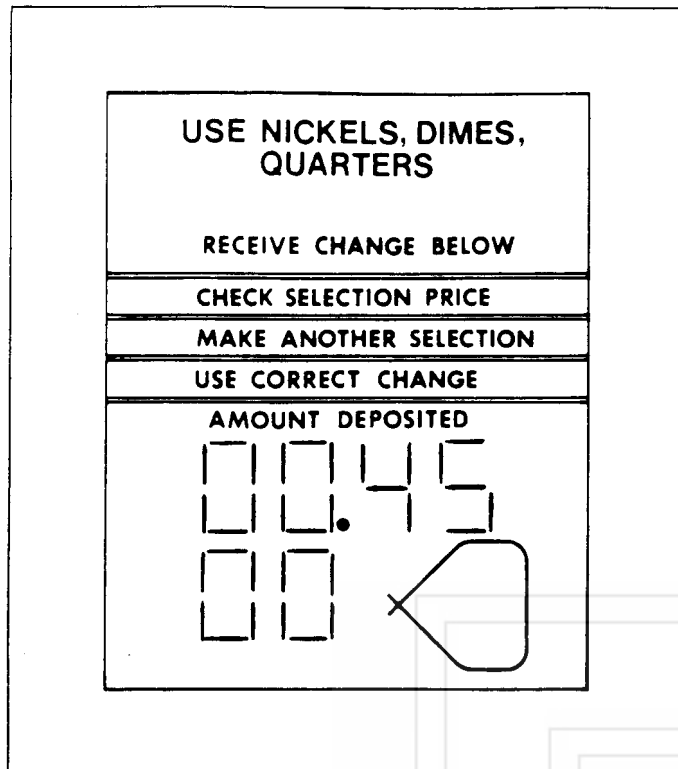

Figure 15. SHOWING A SELECTION PROGRAMMED FOR 45¢
- B. Press the letter and then the number for the first selection to be checked. The price display will show the price that selection is programmed for (Figure 15). Check the displayed price against the price tab on the shelf for that selection.
- B. Press the letter and then the number for the first selection to be checked. The display will show the price and product code that selection is programmed for (Figure 15). Check the displayed price against the price tab on the shelf for that selection.